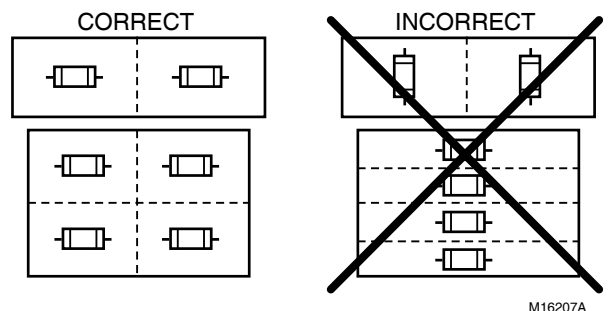

Fig. 3. Arranging air cleaners in a large area.
3. Consider each portion as a single room and install the air cleaner at the center of each area. Align the air cleaners to be parallel. See Fig. 3.